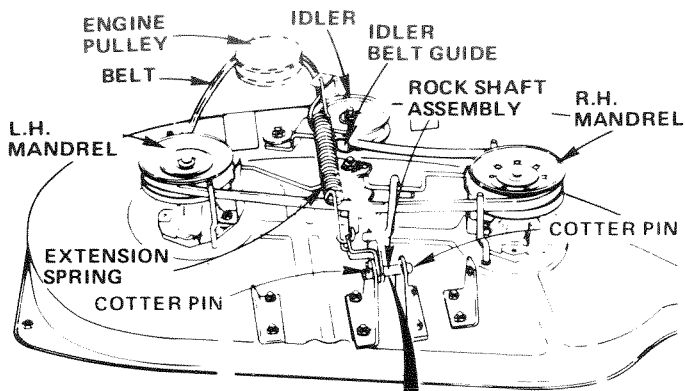

FIGURE 38
3. Roll Belt off Engine Pulley (Fig. 38).
1. Slide Belt under Extension Spring (Fig. 38).